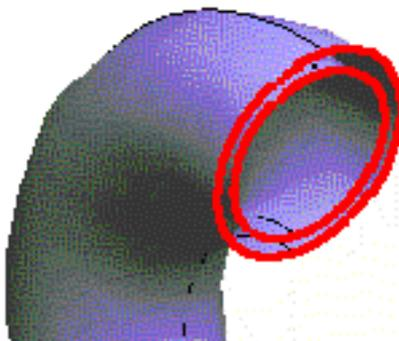

Figure 21. Opening at the end of the pipe
- 5 . Choose **Geometry->Create->NURBS Surface->By contour** and select the four lines that define the opening of the pipe (Figure 21). Press **ESC**.